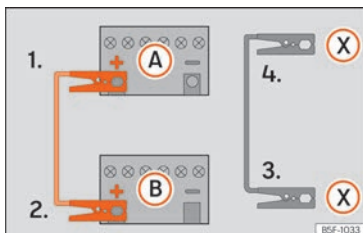

Fig. 45 Diagram of connections for vehicles with Start-Stop system.
- 4b. *In vehicles with a Start-stop system:* connect one end of the *black* jump lead (X) to a suitable ground terminal, to a solid piece of metal in the engine block, or to the engine block itself » » Fig. 45.
5. Connect the other end of the *black* jump lead (X) to a solid metal component bolted to the engine block or to the engine block itself of the vehicle with the flat battery. Do not connect it to a point near the battery (A).